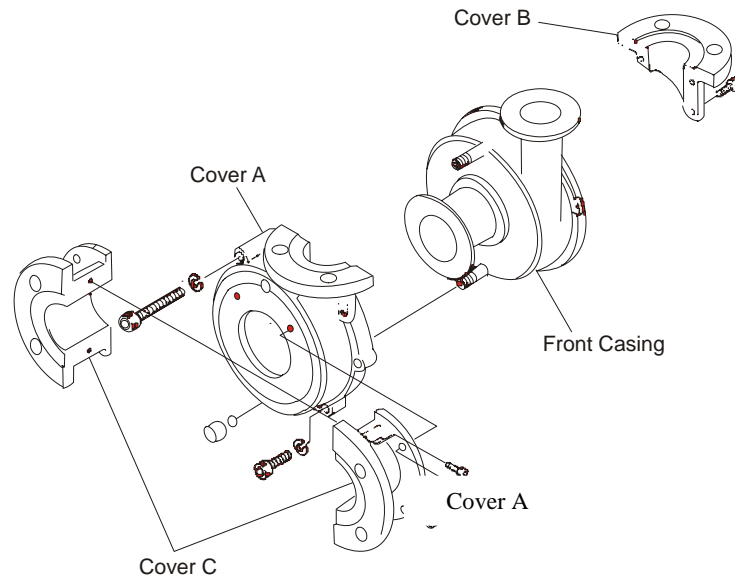

Figure 17
5. Align and install a new front casing liner into cover A, paying attention to the drain port and locating tabs. [Fig. 17] If the front casing liner is difficult to attach, tap it gently with a resin hammer. *Note: Tapping the back portion of the front casing liner may cause sealing difficulty during reassembly.